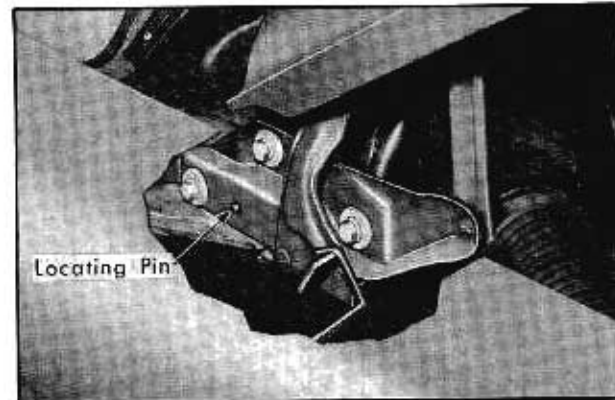

Fig. 4-3 Hood Hinge Adjustment
1. Loosen hinge to cowl mounting screws, install a short  $3/8$ " diameter pin in hole in hinge, and move hinge until pin will also enter hole in cowl. This will hold hinge in position at this point. Fig. 4-3.